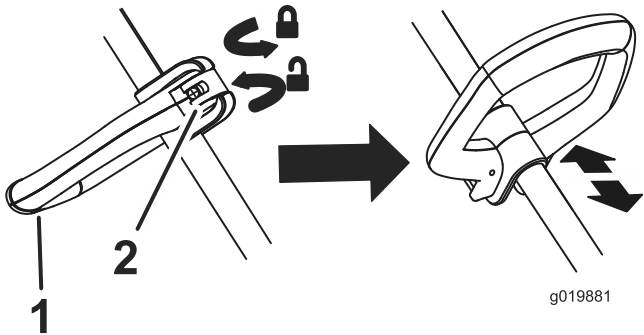

Figure 11
- To adjust the auxiliary handle height, release the auxiliary handle latch, slide the auxiliary handle up or down to the desired height, then secure the auxiliary handle in place by closing the auxiliary latch (Figure 11).